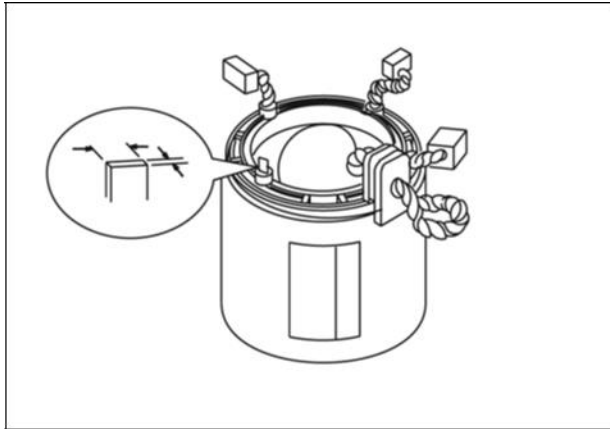

Figure 67
4. Solder brush lead wires to terminals (Figure 67).